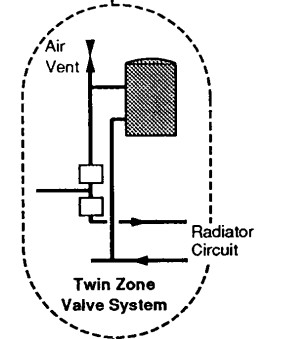

Fig. 4c
b) A system using twin zone valves (e.g. Honeywell 'S' Plan) (Fig. 4c).